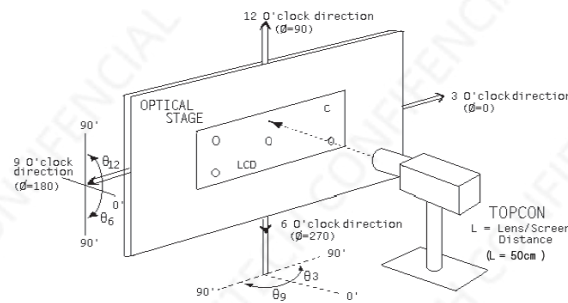

Figure 3
1. Viewing angle is the angle at which the contrast ratio is greater than 10. The viewing angles are determined for the horizontal or 3, 9 o'clock direction and the vertical or 6, 12 o'clock direction with respect to the optical axis which is normal to the panel surface (see Figure 3).
2. Contrast measurements shall be made at viewing angle of $\theta=0^\circ$ and at the center of the panel surface. Luminance shall be measured with all pixels in the view field set first to white, then to the dark (black) state. (see Figure 3) Luminance Contrast Ratio (CR) is defined mathematically.